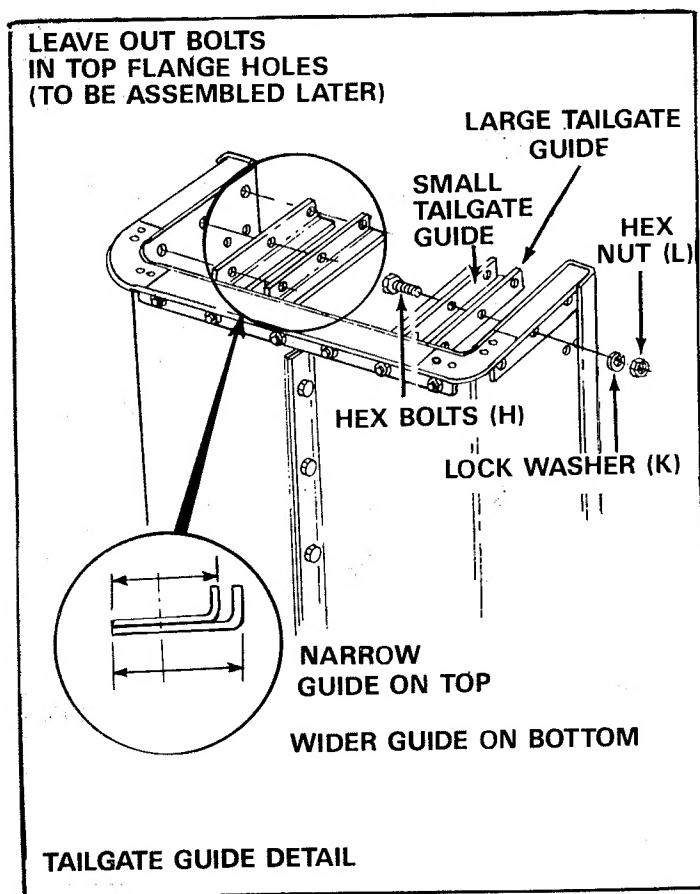

FIGURE 5
7. Position the tailgate reinforcement bracket (AE) over end of cart. See figure 5.
8. Start slotted screws (O) through bottom of cart (heads of screws to the inside of cart) and reinforcement bracket. Secure finger tight with hex nuts (Q) and lock washers (P). See figure 5.
9. Position the tailgate guides (X) so that the holes line up with reinforcement bracket and cart body. Refer to tailgate guide detail in figure 5.
10. Secure tailgate guides with six hex bolts (H) lock washers (K) and hex nuts (L). See figure 5. Tighten bolts assembled in steps 7, 8 and 9 at this time. Do not tighten others.